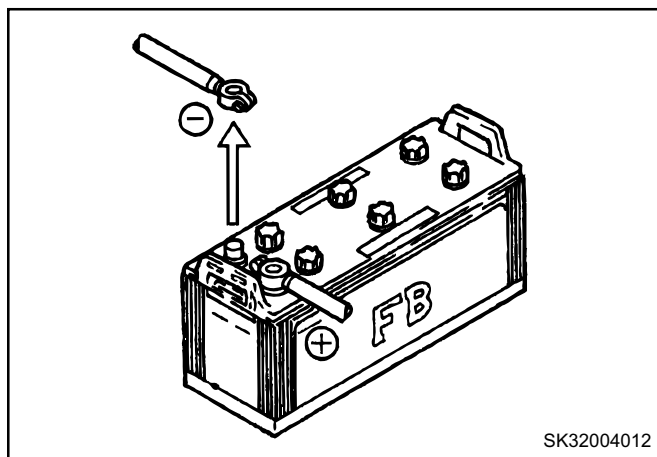

FIGURE 4.5D
2. Remove negative (-) cable from battery terminal. See Figure 4.5D.